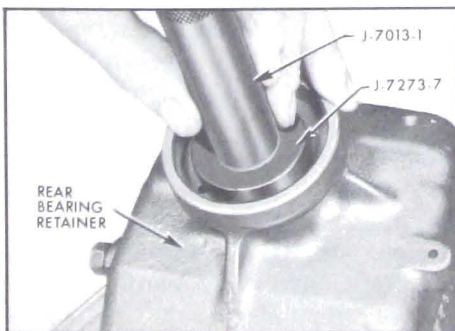

Figure 5-99—Installing Bushing in Rear Bearing Retainer
10. Examine output shaft bushing. If worn or scored drive bushing out using Tool J-7273-7 and handle J-7013-1. See Figure 5-99.
1. If new bushing is being installed, drive bushing into place (flush with counter bore) using Tool J-7273-7 and Handle J-7013-1. See Figure 5-99. Coat O.D. of new seal with permatex and install with J-8864.